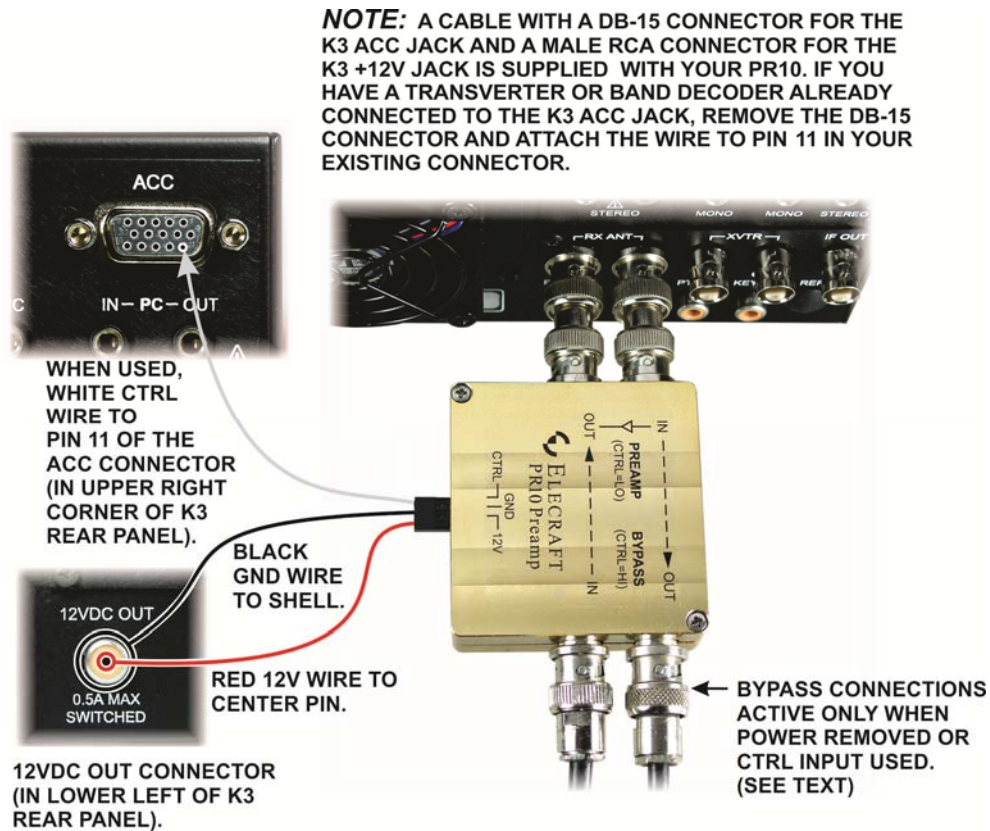

Figure 2. PR10 Mounted on Elecraft K3.
The BNC connector spacing matches the rear-panel RX ANT connectors so the PR10 may be attached to the K3 using the supplied male-male BNC connectors as shown in Figure 2. A prewired cable is supplied that connects to the K3 as follows:
- The Control (CTRL) input is optional (see below) when the DB-15 connector is attached to the ACC connector on the K3. The white CTRL wire is connected to the DIGOUT1 signal at pin 11 of the ACC jack on the K3 rear panel through the DB-15 connector (See Figure 2). If you already have a cable connected to the K3 ACC port for a transverter or band decoder, remove the DB-15 from the cable and add the wire to pin 11 of the existing connector.